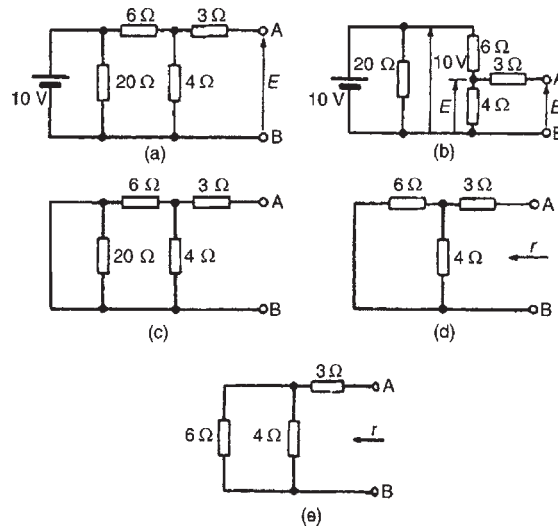

Figure 13.33
- (v) For the circuit shown in Fig. 13.33(a), the $3\ \Omega$ resistor carries no current and the p.d. across the $20\ \Omega$ resistor is $10\ \text{V}$. Redrawing the circuit gives Fig. 13.33(b), from which
- (vi) If the $10\ \text{V}$ battery in Fig. 13.33(a) is removed and replaced by a short-circuit, as shown in Fig. 13.33(c), then the $20\ \Omega$ resistor may be
removed. The reason for this is that a short-circuit has zero resistance, and $20\ \Omega$ in parallel with zero ohms gives an equivalent resistance of $(20 \times 0)/(20 + 0)$ i.e. $0\ \Omega$. The circuit is then as shown in Fig. 13.33(d), which is redrawn in Fig. 13.33(e). From Fig. 13.33(e), the equivalent resistance across AB,